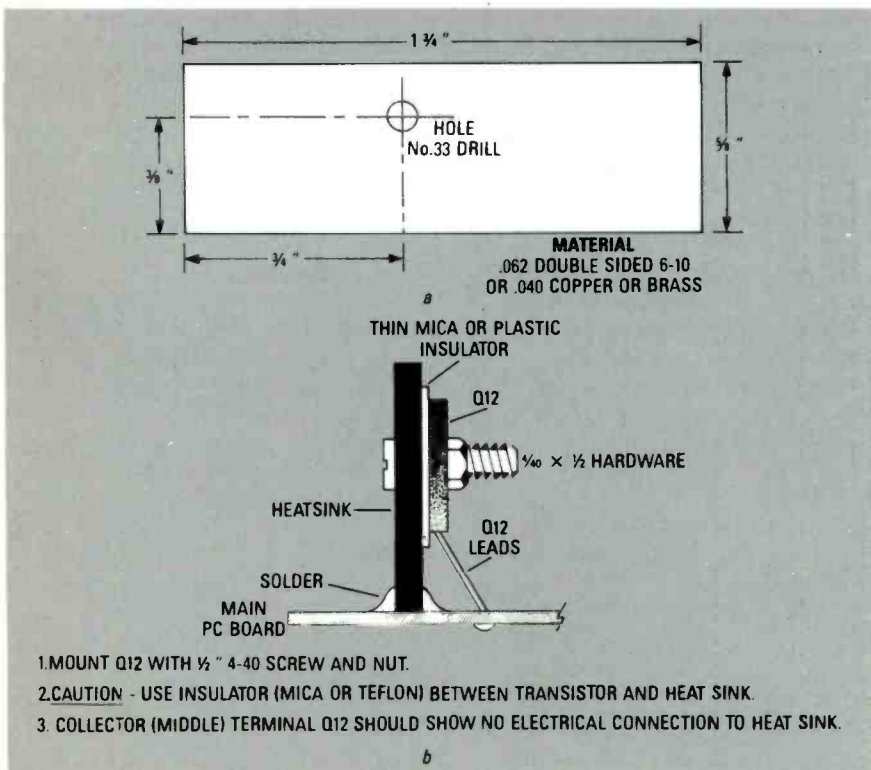

FIG. 5—THE ALUMINUM PLATE THAT IS USED AS A HEAT SINK FOR Q12 also functions as an RF shield for transistors Q6 and Q7.
7. Transistor Q12 must be heat-sunk because it must dissipate up to 3 watts. The method shown in Fig. 5 has proven adequate if at least 1-ounce copper is used. On the other hand, Q7 is adequately heat-sunk if the metal case is soldered to the PC-board ground plane.
Here's how to tune the 2nd and 3rd doublers. Connect an RF probe to the junction of L9 and R19, or to the junction of C25 and L9 if you're building the low-power version. Figure 5 shows you how to build an RF probe if you don't already have one. Adjust C15, C17, C18, C19, C21, and C25 for a maximum reading. You should be able to obtain at least 1.5 volts of RF energy at the junction of R19 and L9 for the high-power version, and about 2 volts at the junction of C25 and L9 for the low-power version. If everything looks good, that checks out stages Q1 through Q5.